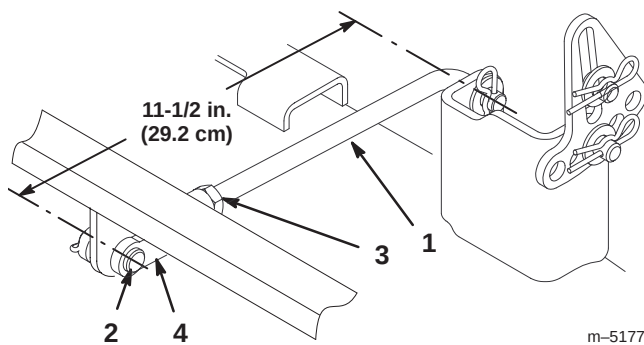

Figure 38
4. Measure the length of the rear trunion rod (Fig. 38). If the rod length is not 11-1/2 in. (29.2 cm), remove the clevis pin and cotter pin from the end of the rod (Fig. 38), loosen the jam nut, and turn the yoke until the 11-1/2 in. (29.3 cm) dimension is obtained. Then secure the yoke with the clevis pin and cotter pin. Repeat this procedure on the opposite side of the mower.
10. When the front-to-rear blade slope is correct, tighten the jam nuts (Fig. 38 and 40).